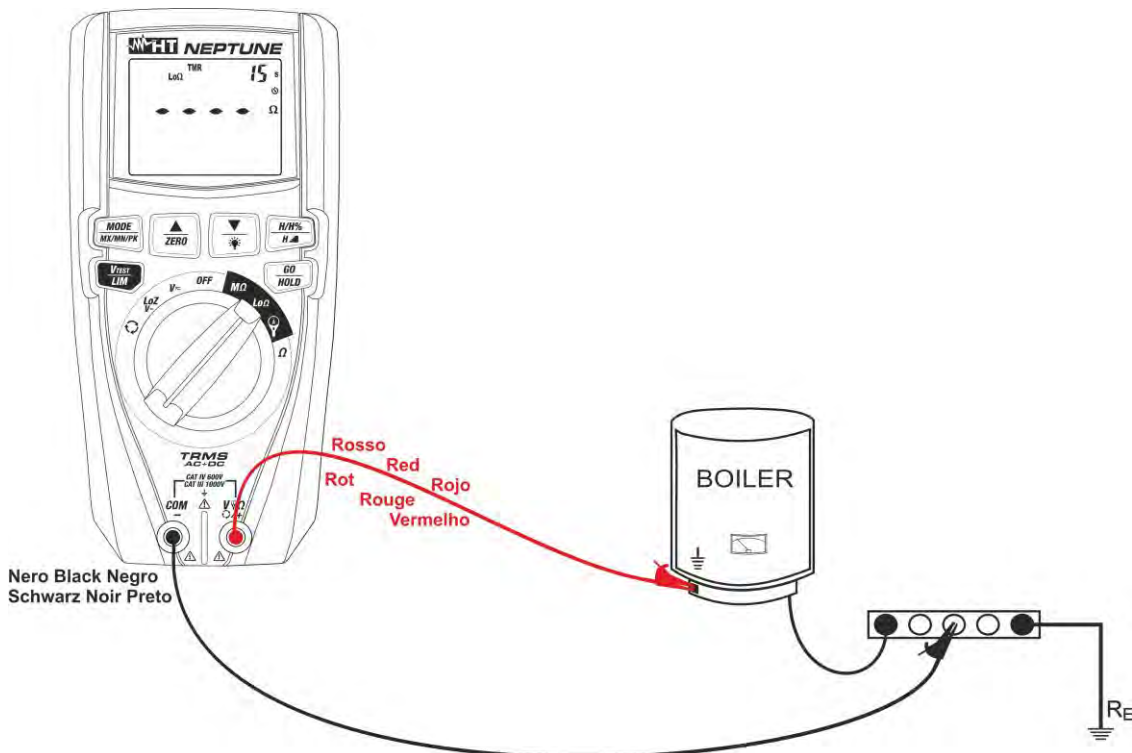

Fig. 29: Use of the instrument for continuity test in TMR mode
7. Insert the red lead into input terminal $V\Omega\text{+}$ and the black lead into input terminal **COM**–, and connect the instrument to the system to be tested (see Fig. 29).